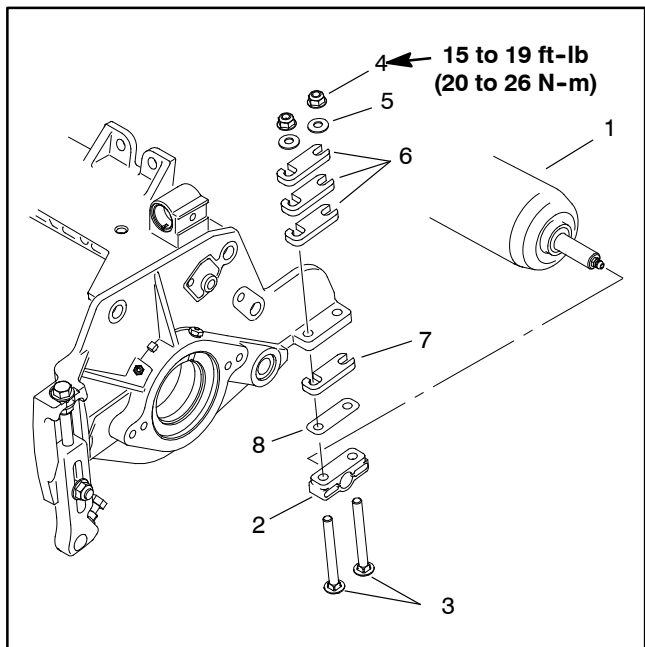

Figure 22
7. If rear roller is still not level after adjusting both side plates, check to see if cutting reel is tapered (see Preparing Reel for Grinding in this chapter). If cutting reel is not tapered and rear roller is not level, a 0.010" shim (part number 107-4001) is available to allow additional rear roller adjustment. The shim would be used on one side of the rear roller and should be installed between the rear roller bracket and roller shim (Fig. 22). Tighten the flange nuts to a torque from **15 to 19 ft-lb (20 to 26 N-m)**